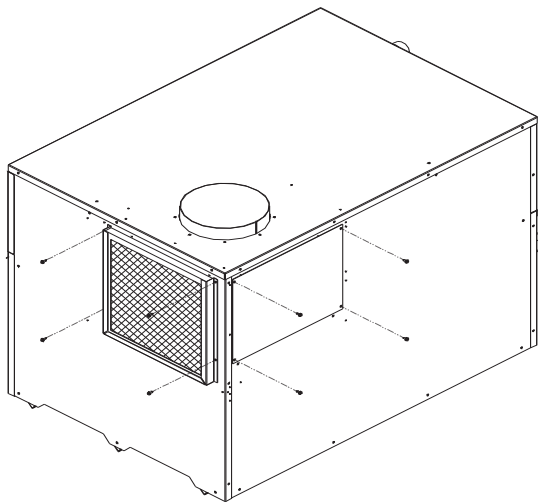

FIG. 5 Moving Air Filter/Bracket Assembly from Rear of Unit to Side
3. Move the filter/bracket assembly from the rear of unit to the side opening (see FIG. 5).